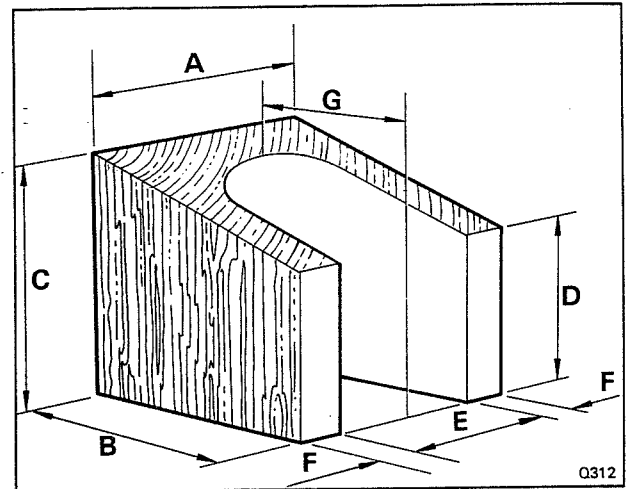

Fig. H3 Wooden support block
33. Remove the front road springs as described in Section H2. Fit the wooden support blocks (see Fig. H3) between the bump stop and the lower triangle levers. Lower the car onto its wheels ensuring that the wooden blocks remain in position.